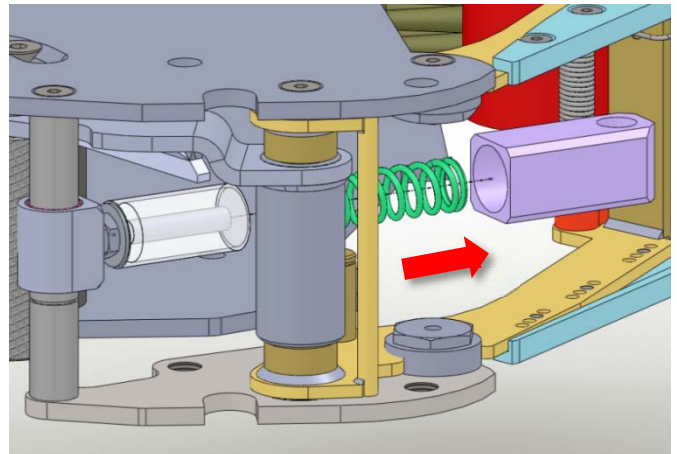

Figure 10-11
3. Remove the spring barrel from over lapping position as shown in Figure 10-11. Remove any broken particle from the spring guide. Install new compression spring into the captive position.